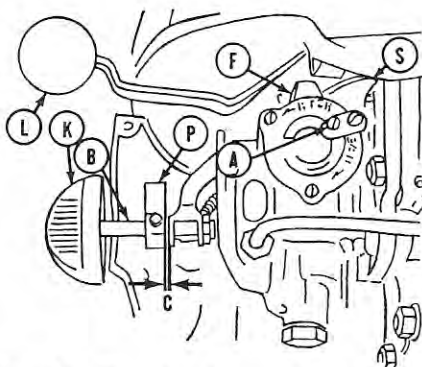

Fig. G3—View of carburetor showing points of adjustment.
Assemble by reversing the disassembly procedure. Insert float valve through bottom of bowl and install lower lock (7) in lower groove in shaft. On most carburetors, the float level is positively fixed by machined grooves in float valve shaft. If shaft is not grooved, set float locks so that top of float is 1/2-inch below top of float bowl with valve in closed position. Install and lightly seat the high speed needle (25); then back needle out 1/2-turn. Without moving needle, install primer lever (23) and spring (22); then install primer cam (24) with cam pointing upward as shown in Fig. G2. Leave 1/8-inch clearance between primer cam and primer lever as shown at (C—Fig. G3). Install knob (26) with arrow pointing upward as shown in Fig. G2.
After carburetor is installed, warm engine and move operating lever (L—Fig. G3) to high speed position. Turn high speed knob (K) either way until engine operates smoothly. Move operating lever (L) to slow position and turn the slow speed adjusting screw (A) in or out until smoothest slow speed operation is obtained.
SPEED CONTROL LINKAGE. The speed control lever rotates the magneto armature plate to advance the timing. A cam (S—Fig. G3) attached to armature plate moves the cam follower (F) to open the throttle as timing is advanced. Synchronization of ignition and carburetor throttle is fixed and not adjustable. Make sure that all throttle linkage is free and does not bind, also that primer lever (23—Fig. G2) does not contact needle valve (10) when high speed needle is adjusted for operation.